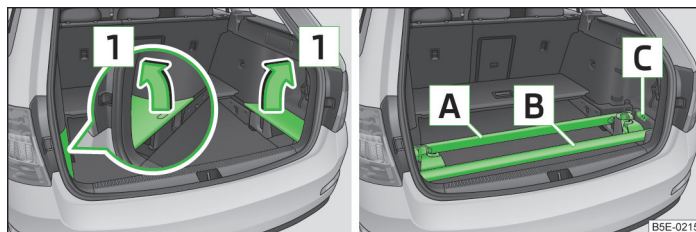

Fig. 87 Removing the side covers/stowing roof racks properly
- Remove the side covers of the luggage compartment in the direction of the arrow **1** » Fig. 87.
- Replace the side trims of the luggage compartment in the opposite direction of the arrow **1** » Fig. 87.
- The keys to the roof rack can be stowed in the recess **C** » Fig. 87.